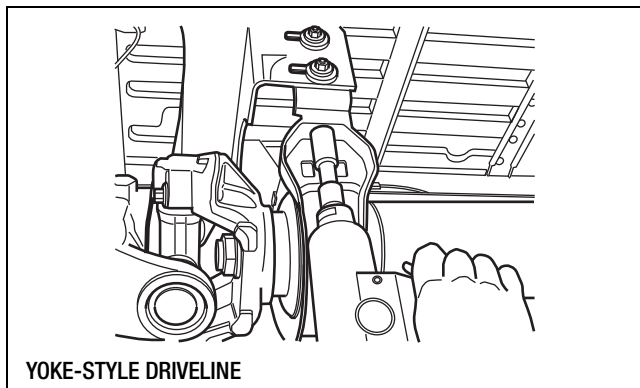
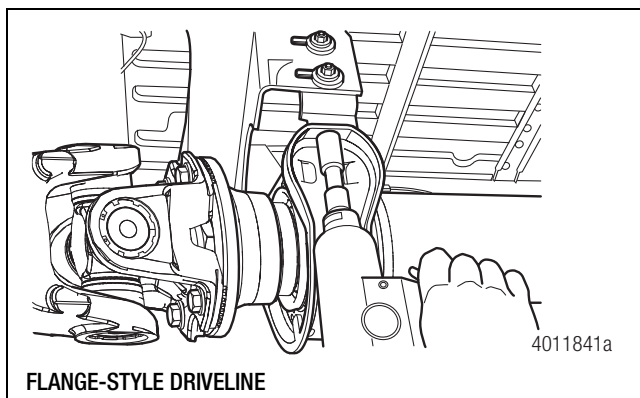

Figure 9.2
Figure 9.3
2. Remove the center bearing bracket bolts. Figure 9.2 and Figure 9.3.